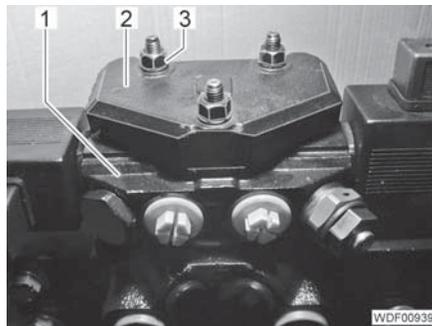

Fig. 168 Cover attachment
- Unscrew the 3 nuts (Fig. 168,3).
- Remove the cover (Fig. 168,2).
- Remove the additional segment (Fig. 168,1).